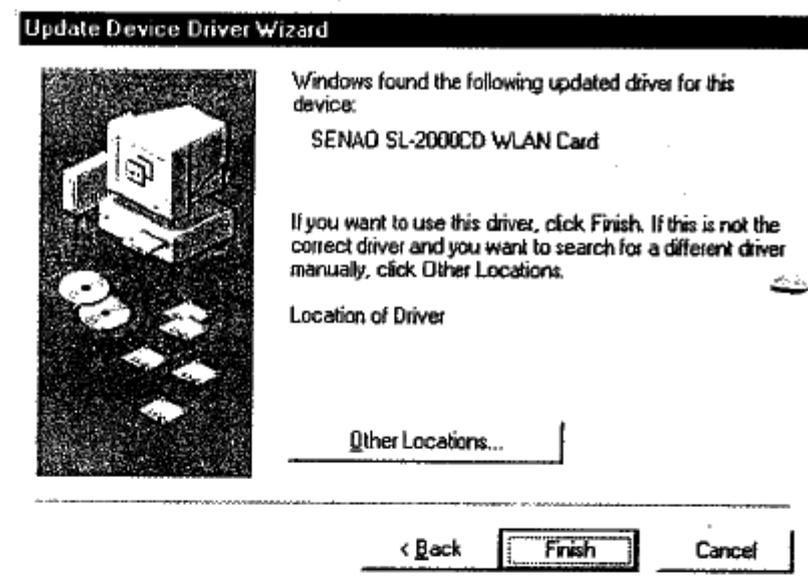

Figure 3-2
4. Insert the "SL-2000CD Driver & Utility" diskette into the floppy disk drive A, and click "Next". Windows will find the PC Card driver as shown in Figure 3-2. Then click "Finish".